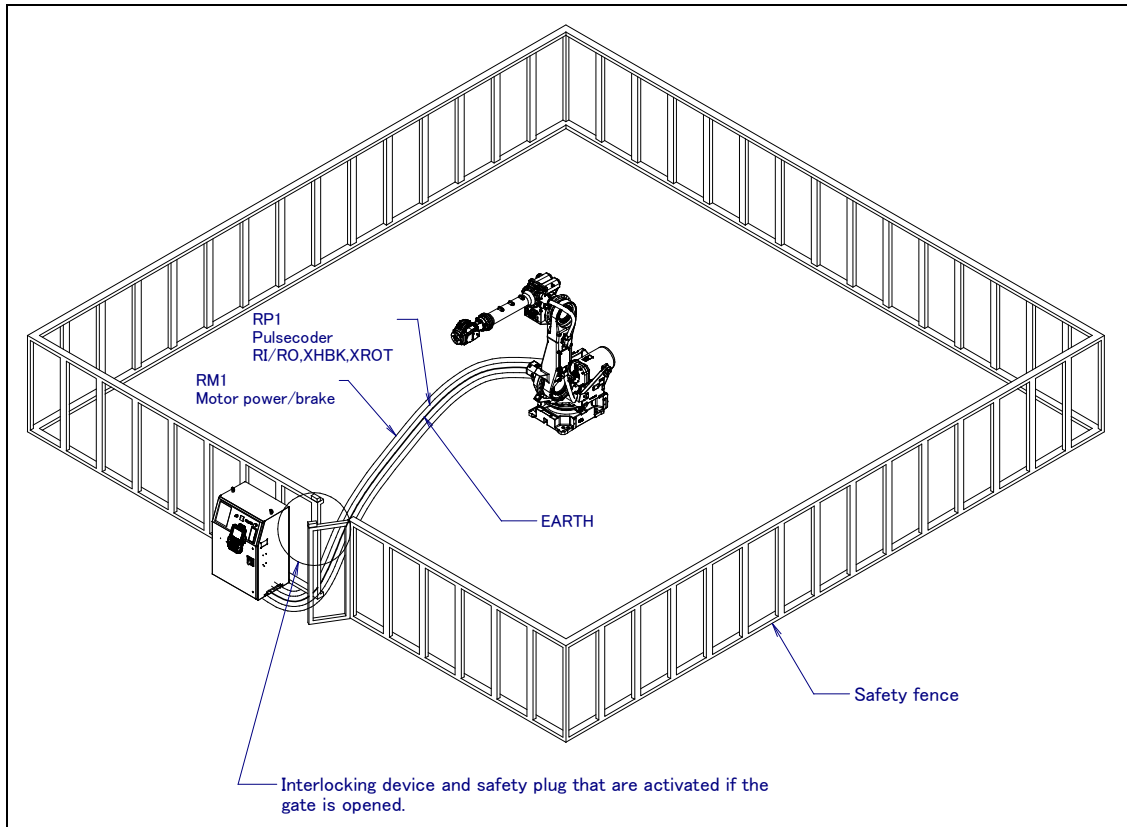

Fig. 2.4.2 (a) Safety fence and safety gate
- (9) When adjusting each peripheral device independently, make sure to turn the power off the robot controller.
- (10) Operators must take the gloves off while manipulating the operator's panel or teach pendant. Operation with gloved fingers may cause an operation error.
- (11) Programs, system variables, and other information can be saved on memory card or USB memories. Be sure to save the data periodically in case the data is lost in an accident. (Refer to Controller maintenance manual.)
- (12) The robot must be transported and installed by accurate procedure recommended by FANUC. Wrong transportation or installation may cause the robot to fall, resulting in severe injury to workers.
- (13) In the first operation of the robot after installation, the operation should be restricted to low speeds. Then, the speed should be gradually increased to check the operation of the robot.
- (14) Before the robot is started, it should be checked that no one is in the area of the safety fence. At the same time, a check must be made to ensure that there is no risk of hazardous situations. If detected, such a situation should be eliminated before the operation.
- (15) When connecting the peripheral devices related to stop(safety fence etc.) and each signal (external emergency , fence etc.) of robot. be sure to confirm the stop movement and do not take the wrong connection.
- (16) In preparing the trestle, please secure the maintenance worker safety at high place in reference to Fig. 2.4.2 (c). Design with the Scaffolding and Safety-belt with circumspection.